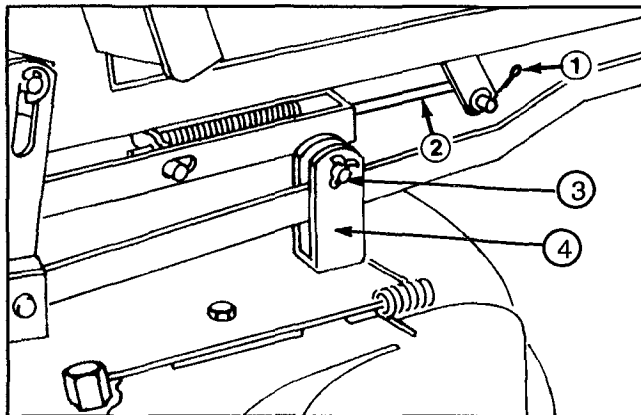

Figure 24
5. Remove cotter pin from adjustment rod and pull from pivot tube arm (Fig. 24).
2. Remove cotter pin from adjustment rod (Fig. 24).